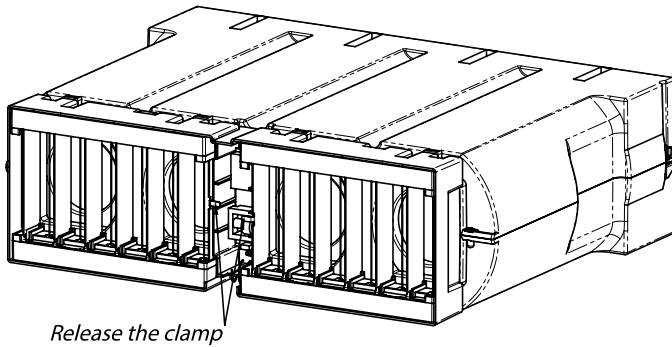

Figure 19. Disconnecting chargers from the earthing cables
5. Disconnect the chargers from earthing as shown in Figure 19;